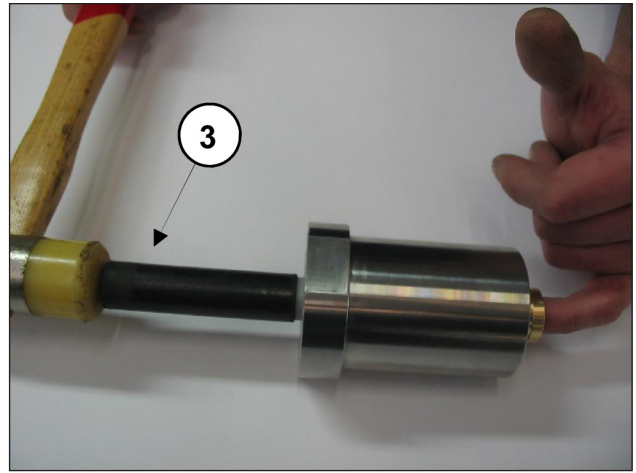
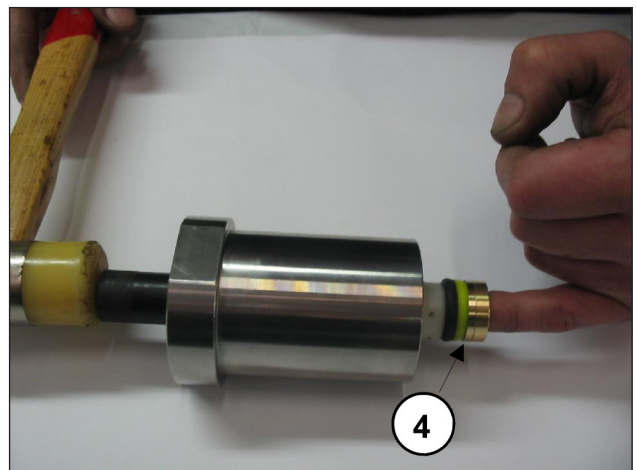

Fig. 34
Fig. 35
- With the liner separated from the sealing support and with a special plastic pin ③ as shown in Fig. 34 drive out the HP (high pressure) seal ④ as shown in Fig. 35.